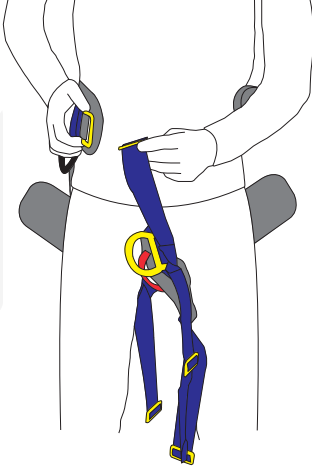

Fig. 3
3. Take hold and fit one of the two front waist adjuster buckles, then repeat with the other buckle. Centralise pad, belay loop and dee ring and adjust to fit comfortably Figs. 3 & 4. Fit waist buckle as shown in Figs. A- B & C-D
3. Thread the webbing through the 3 bar slide block on the back of the chest harness ensure that the webbing goes through the back of the top bar over the middle moving bar and back through the bottom slot as in Fig 3 A. Pull the webbing down through the buckle as in Fig 3.